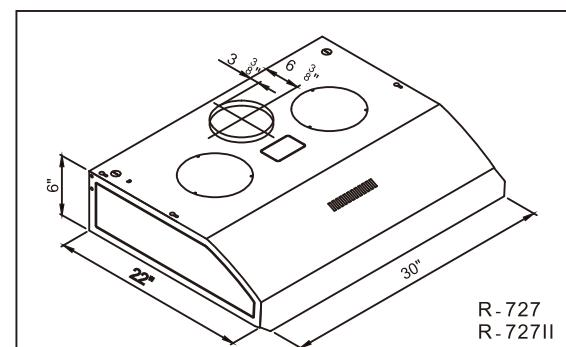
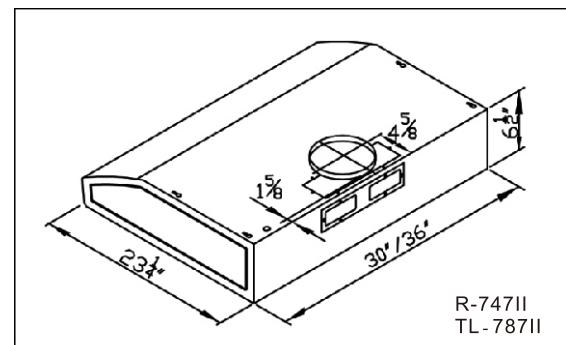
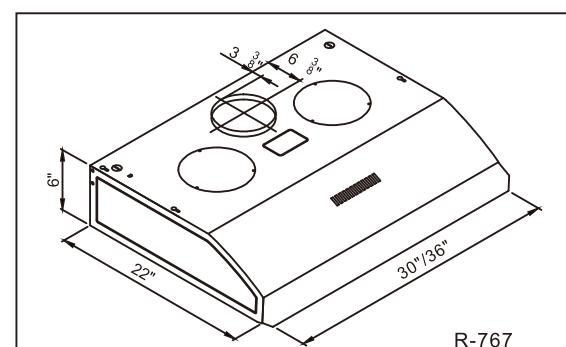

Fig.1
Fig.2
Fig.3
1. Dimension details.(Fig.1) (Fig.2) (Fig.3)